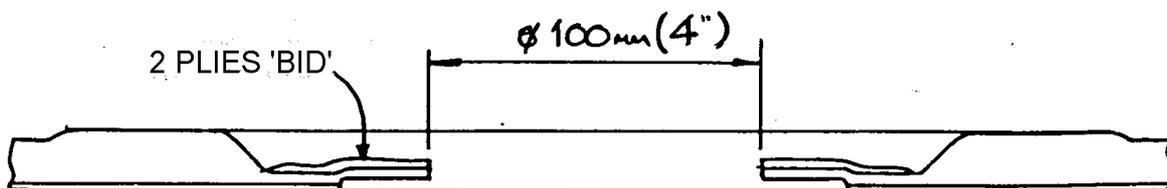

Fig 7. Flange trimming.
7. After cure, remove the panel and trim the flange around the hole to about 12 - 13 mm (1/2") in width - (figure 7).